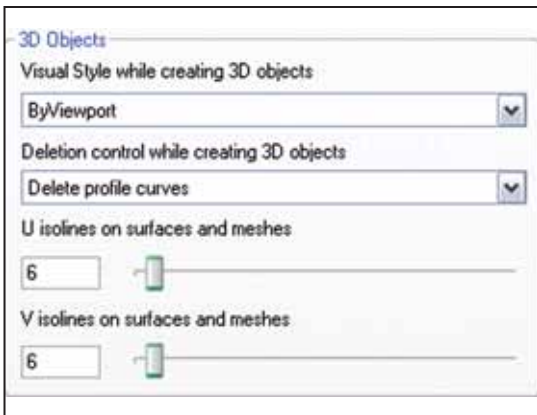

Figure 3. Use 3D Objects to control display of 3D solids and surfaces.
- The 3D Objects section controls the display of 3D solids and surfaces (Figure 3):